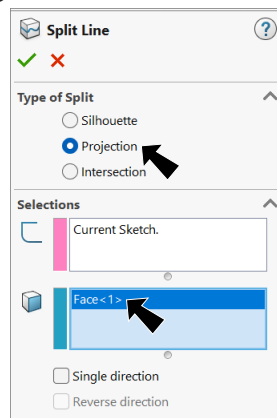

Fig. 25
Step 7. In the Split Line Property Manager set: under Type of Split, **Fig. 25** select **Projection**